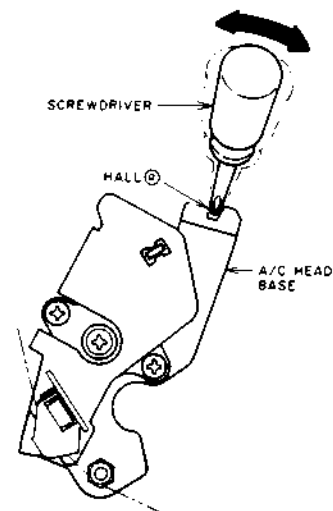

Fig. 5-8
- 4) Insert a sharpness screwdriver into A/C HEAD BASE and hall (a) as shown in Fig. 5-8.
- 5) Move the A/C HEAD BASE by moving a screwdriver in the directions of the arrow as shown in Fig. 5-8 to obtain the maximum RF output.